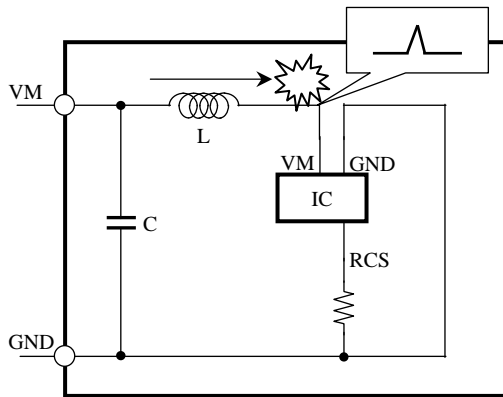
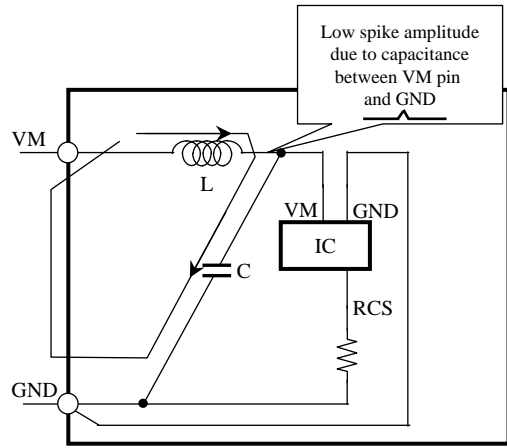

Figure 1. No recommended pattern
Figure 2. Recommended pattern
- 10) A high current flows into the IC. Therefore, the common impedance of PCB can not be ignored. Take the following points into consideration and design the PCB pattern for a motor. Because the wiring connecting to VM1 (Pin 43) and VM2 (Pin 41) of this IC is high-current, it is easy to generate noise at time of switching by wiring L. That might cause malfunction and destruction (Figure 1). As Figure 2, the escape way of the noise is secured by connecting a capacitor to the connector close to the VM pin of the IC. This makes it possible to suppress the fluctuation of direct VM pin voltage of the IC. Make the setting as shown in Figure 2 as much as possible.